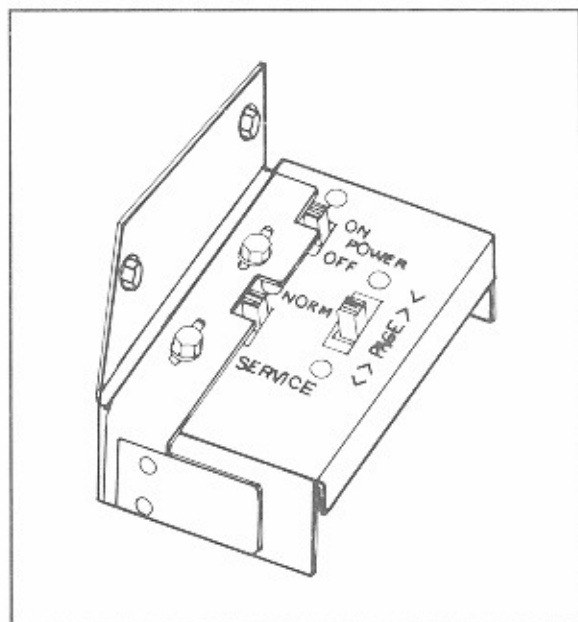

Figure 3-2. Service Switch
1. Open the top door and place the SERVICE switch (figure 3-2) in the SERVICE position. The phonograph display will say * SERVICE MODE *.